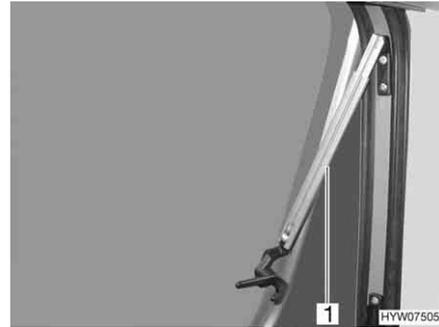

Fig. 60 Hinged window with automatic hinges, open
- Open the hinged window to the desired latched position. The automatic hinge (Fig. 60,1) locks in place automatically.